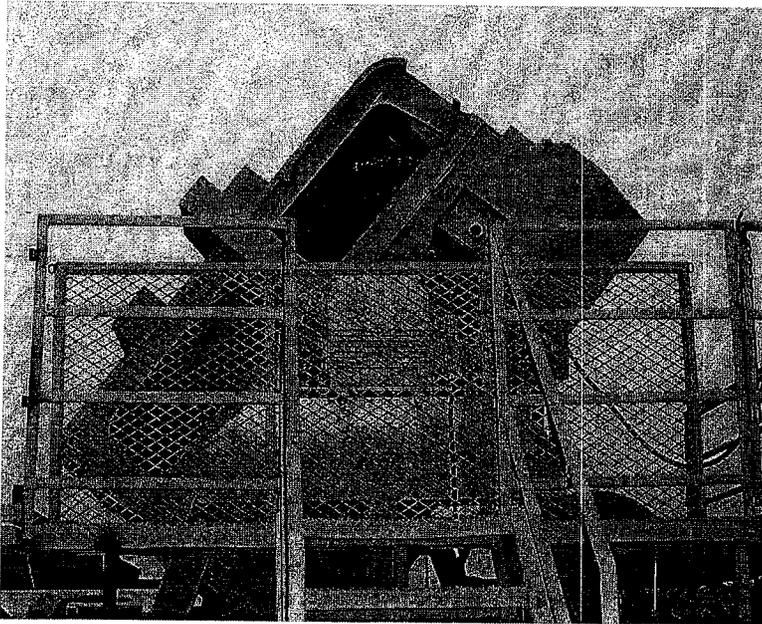

Figure 2-1. The Up-armored HMMWV critical rollover angle is 25° – less with higher-cg loads.
- (2) The critical rollover angle for a Combat Patrol-loaded M1114 is less than 30°.
- (3) The critical rollover angle for an up-armored HMMWV is 25° – less with higher-cg loads. See figure 2-1.